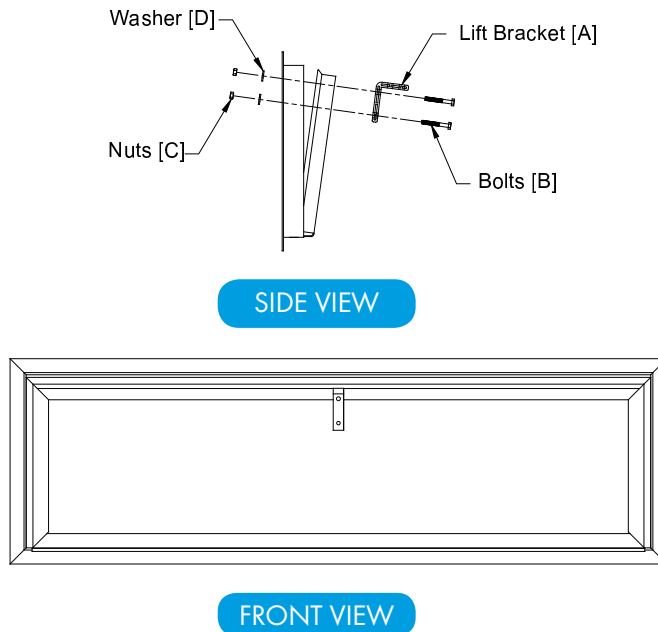

Figure 2
Using Lift Bracket [A] as a guide mark and drill (2) 1/2" holes in Vent Door and install Lift Bracket [A] flush with the top edge of baffle door and centered on the length, using (2) Bolts [B], Nuts [C] and Washers [D] (provided). Top bolt should go through top extrusion. See Figure 2.